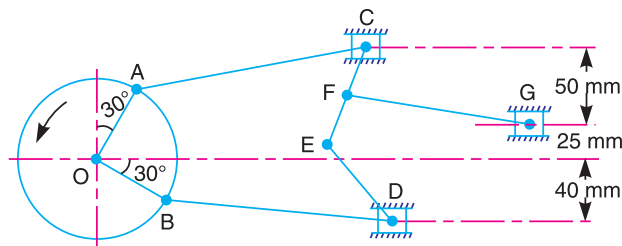

Fig. 7.32
- In the mechanism, as shown in Fig. 7.32, OA and OB are two equal cranks at right angles rotating about O at a speed of 40 r.p.m. anticlockwise. The dimensions of the various links are as follows :